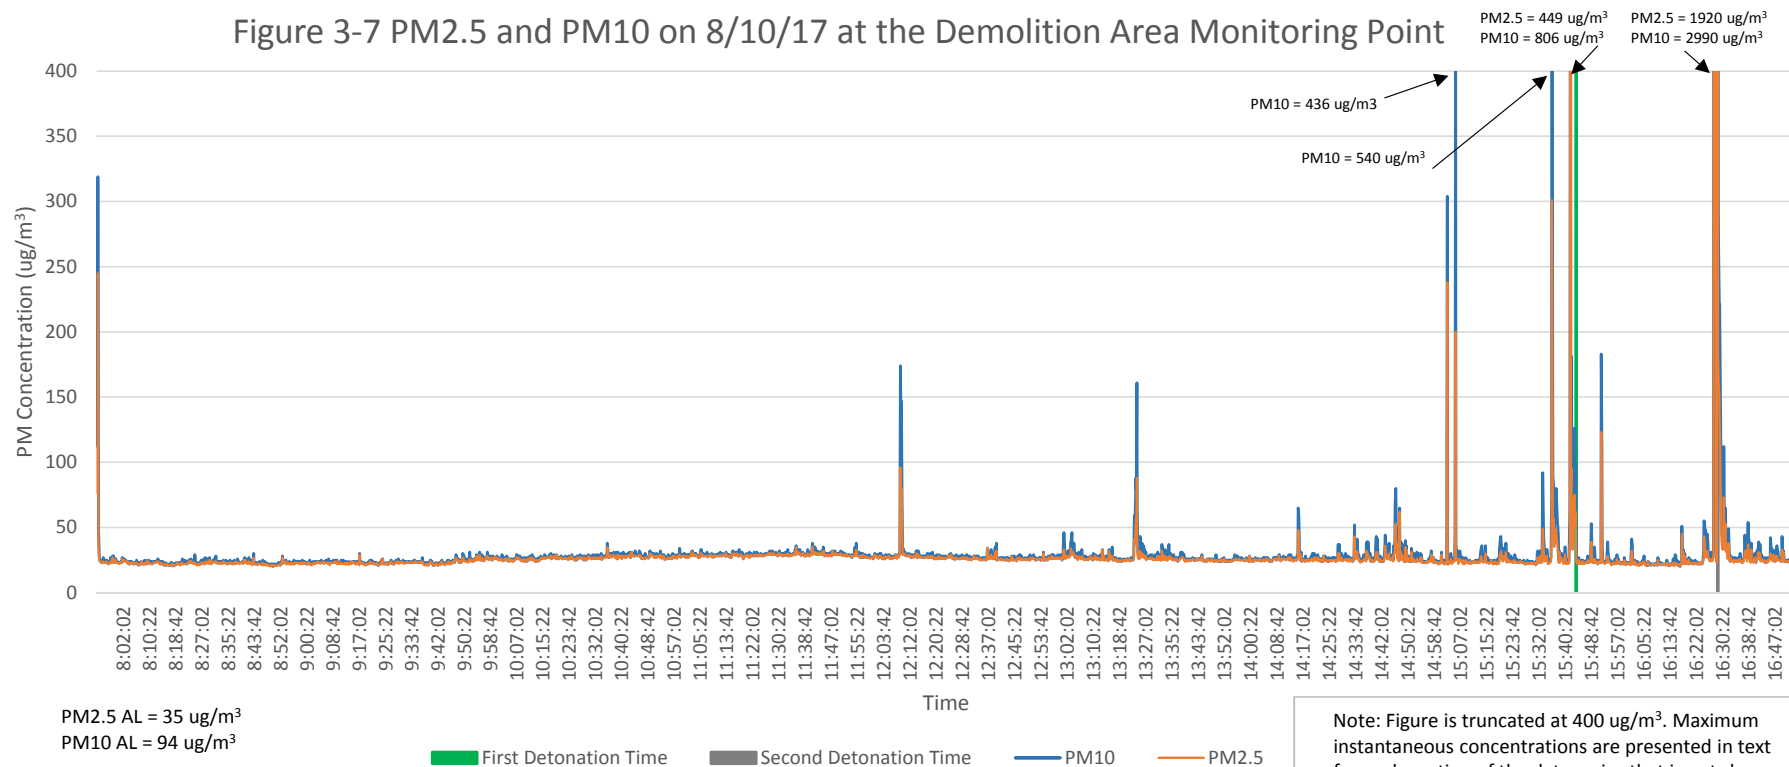

Figure 3-8. PM2.5 and PM10 on 8/10/17 at the Fence Line Boundary Monitoring Point - Waterford
- Figure 3-8. PM2.5 and PM10 on 8/10/17 at the Fence Line Boundary Monitoring Point - Waterford